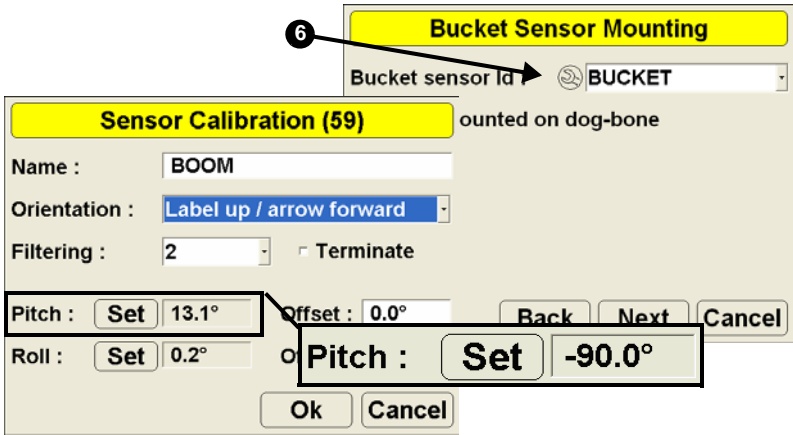

Figure A-17. Set Pitch Value to Zero
6. Tap the Wrench button for the bucket sensor (Figure A-17 on page A-18).
- Set the pitch to zero and press Ok (Figure A-17).